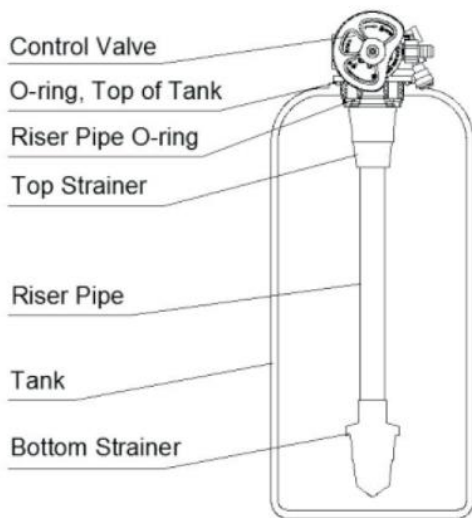

Figure 1-1
1. Install Control Valve and Pipeline Connection (Refer to Figure 1-1, 1-2). When you are facing the front of the control valve, the left is for connecting inlet adaptor, the right is for connecting outlet adaptor, connect drain line adaptor on the right side and the left side is connecting of brine line.